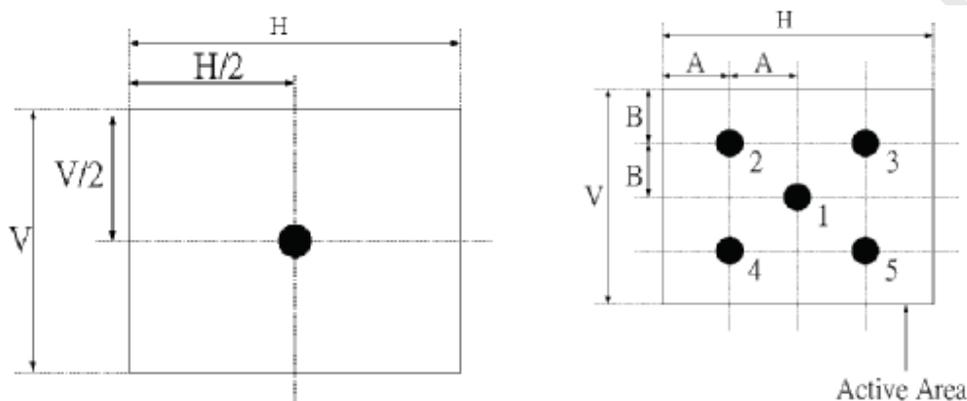

Fig.4-2 Optical measurement point
2. Surface luminance is luminance value at point 1 across the LCD surface 50cm from the surface with all pixels displaying white. From more information see FIG 4-2. When $I_{BL} = 4.2\text{mA}$, $L_{WH} = 500\text{cd/m}^2$ (typ.) $L_{WH} = L_{on1}$, Where L_{on1} is the luminance with all pixels displaying white at center 1 location.